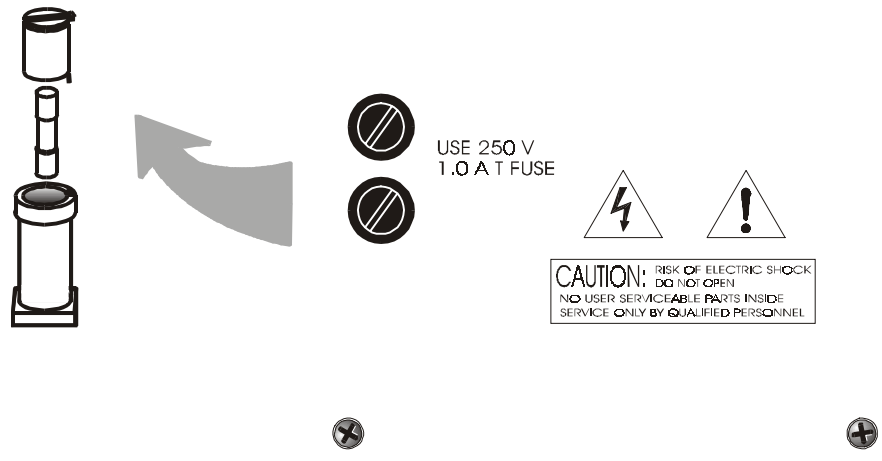

Figure 5-1: Removing Fuse Cap and Fuse from Holder
The 2010B requires two 5 x 20 mm, 1 A, T type (Slow Blow) fuses. The fuses are located inside the enclosure on the Electrical Connector Panel, as shown in Figure 5-1. To replace a fuse:
2. Place a small screwdriver in the notch in the fuse holder cap, push in, and rotate 1/4 turn. The cap will pop out a few millimeters. Pull out the fuse holder cap and fuse, as shown in Figure 5-1.